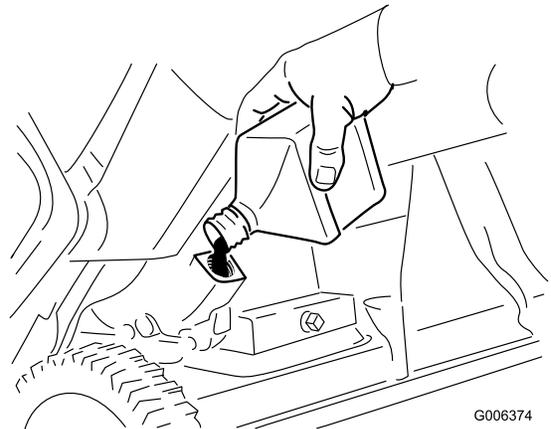

Figure 31
8. With the machine in the operating position, **carefully** pour oil into the oil fill hole. Wait 3 minutes for the oil to settle and add enough to bring it to the point of overflow. There should be very little, if any, oil left in the bottle. (Figure 31).